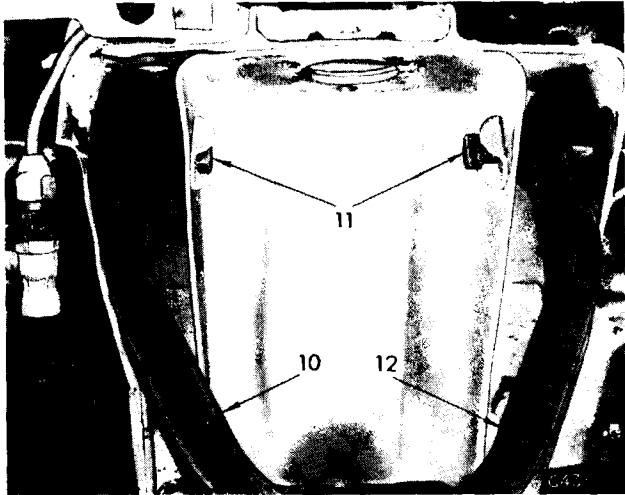

Fig. 13. Top wishbone attachment
3. Remove two fulcrum bolts (11) (Fig. 13).
5. Renew the rubber fulcrum bushes (13) if necessary.